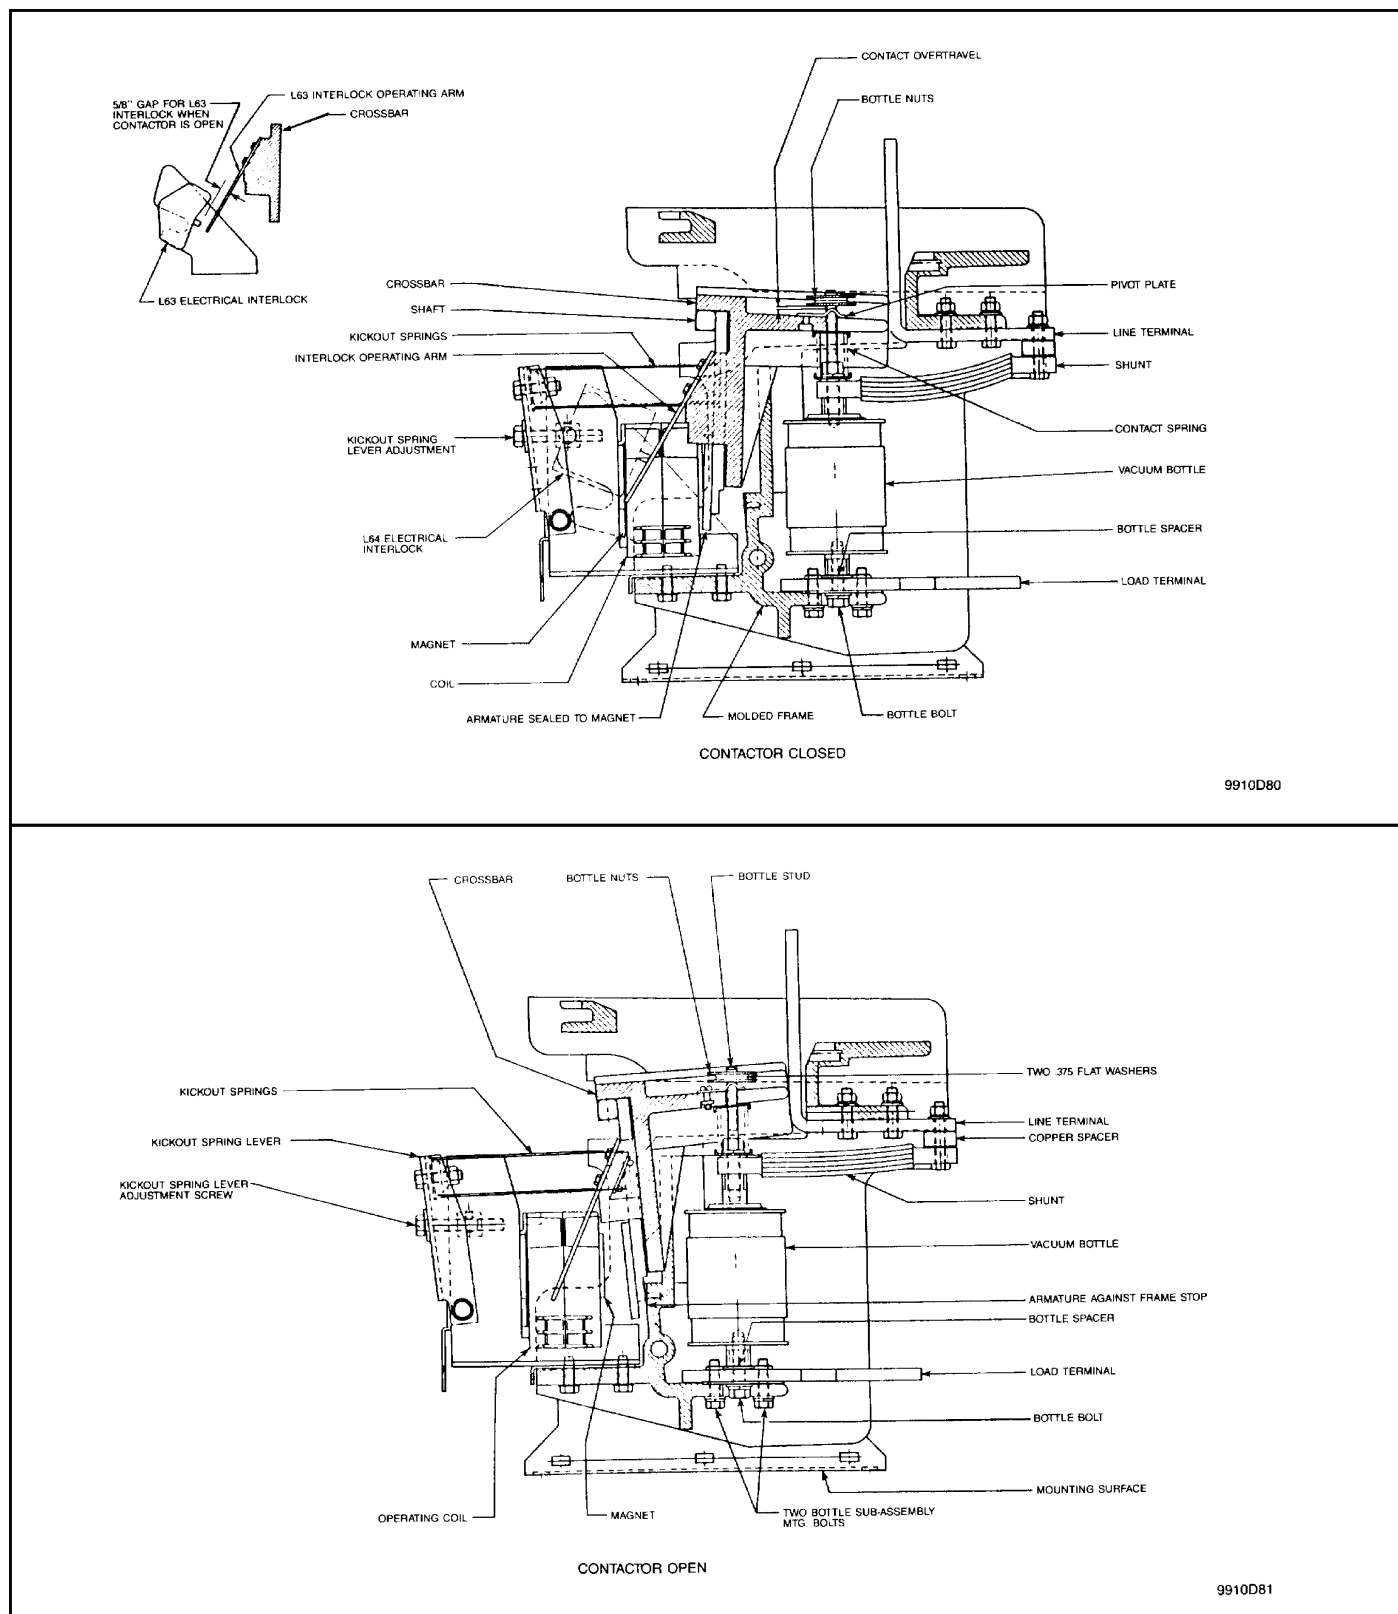

Fig. 4 Contactor Positions
The moving contacts are driven by a molded plastic crossbar (See Figure 4.) rotating with a square steel
The contacts in an unmounted bottle (vacuum interrupter) are normally-closed, because the outside air pressure pushes against the flexible bellows. For contactor duty, the contacts must be open when the operating magnet is not energized. Therefore, the contacts of the vacuum bottles must be held apart mechanically against the air pressure when used in a contactor. In the Type SJO contactor, all of the bottles are held open by two kickout springs on the front of the contactor. (See Figure 4.) The kickout springs press against the moving armature and crossbar and thereby force the bottles into the open contact position. Note that in the open position, the crossbar is pulling the moving contacts to hold them open.
The operating magnet (See Figure 4.) is on the front of the contactor. The coil has a "figure-eight" shape and is really two coils in series, with a connection to their common point. Both coils are encapsulated in one environmentally-immune coil shell, which also contains a full-wave silicon diode rectifier. An AC or DC source can be connected to terminals A and B on the coil shell. When an AC source is applied, the rectifier converts the AC to unfiltered DC to excite the magnet. When a DC source is applied, only two legs of the full-wave rectifier are active and pass DC current for magnet excitation. The magnet will not chatter as AC magnets sometimes do, but at less than rated voltage, it may hum slightly. A normally-closed auxiliary contact, set to open slightly before the armature fully closes, is connected to terminals C and D on the coil shell. When adjusted correctly, this auxiliary contact allows a relatively high current through the pick-up winding, and as the contactor closes, the auxiliary contact inserts the holding winding, which reduces the coil current to a low value, sufficient to hold the magnet closed without overheating.
While the contactor is **open**, push the armature rearward with a long screwdriver or other rod applied to the lower end of the armature above the coil terminals. The armature should not move because it should be firmly against the plastic main frame. See Figure 4. To correct a problem, see paragraph 11 under **CHANGING OPERATING COIL.**
Contact material vaporizes from the contact faces during every interruption and condenses elsewhere inside the bottle. This is normal, and is provided for by **overtravel**, or wear allowance. When the contactor is fully closed, there is a gap between the lower bottle nut and the pivot plate. See Figures 4 and 5. As the contacts wear, this gap decreases. When the gap goes **below .020 in.** on any pole, all the bottle subassemblies should be replaced. Use the .020 inch thick fork-shaped overtravel gauge supplied for this measurement, part no. 5259C11. **DO NOT RE-ADJUST THE BOTTLE NUTS TO RESET OVERTRAVEL AS THE CONTACTS WEAR.** Once placed into service, overtravel should be checked but not adjusted.
The 5/8" gap shown for the L63 interlock (normally closed) in the insert picture in the upper portion of Figure 4 is important and must be held between .615 and .625 inch. If the gap is too big, the hold winding of the operating coil will not be inserted as the contactor closes, and the pick-up winding will burn out, because the pick-up winding is only intermittently rated. If the .625 inch gap is too small, the hold winding will be inserted too soon, reducing the pull force before the contactor is closed, and producing an oscillation like an old doorbell.
2. Loosen the setscrew holding the kickout spring lever adjusting screw. See Figure 4.
13. Re-install the kickout springs, making sure to put the two ends of the spring wire downward, so that the springs will take a natural bow. Note: Whenever adjusting the kickout spring lever, put your free hand over the kickout springs as a precaution. Tighten the adjusting screw until the kickout spring lever is approximately vertical, and the armature is solidly against its stop on the molded frame. See Figure 4. When a screwdriver is pushed against the bottom end of the armature in the open position, the armature must not move. If it does, the kickout springs should be tightened further to push the armature to a solid position. Tighten setscrew to lock the kickout spring lever adjusting screw.